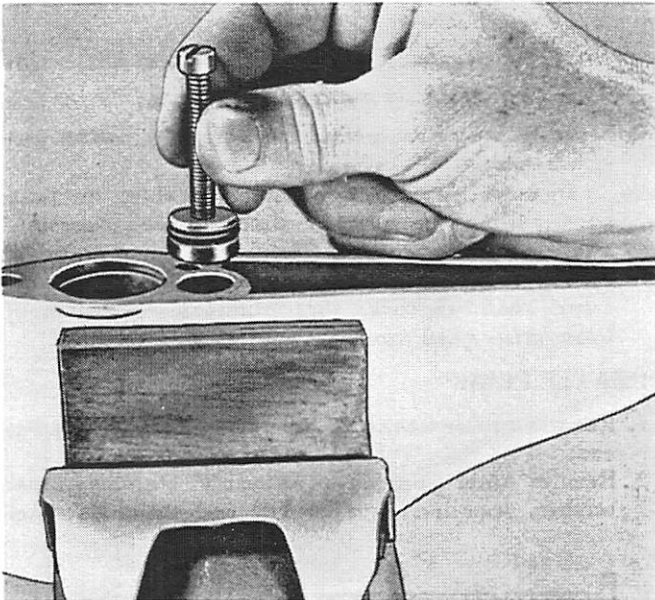

Figure 4. Removing Plug on Shift Linkage Cartridge
2. Remove seal in bottom of housing (middle assembly) by using $1/4$ "-20 screw, turned into seal plug to withdraw assembly. (Figure 4)